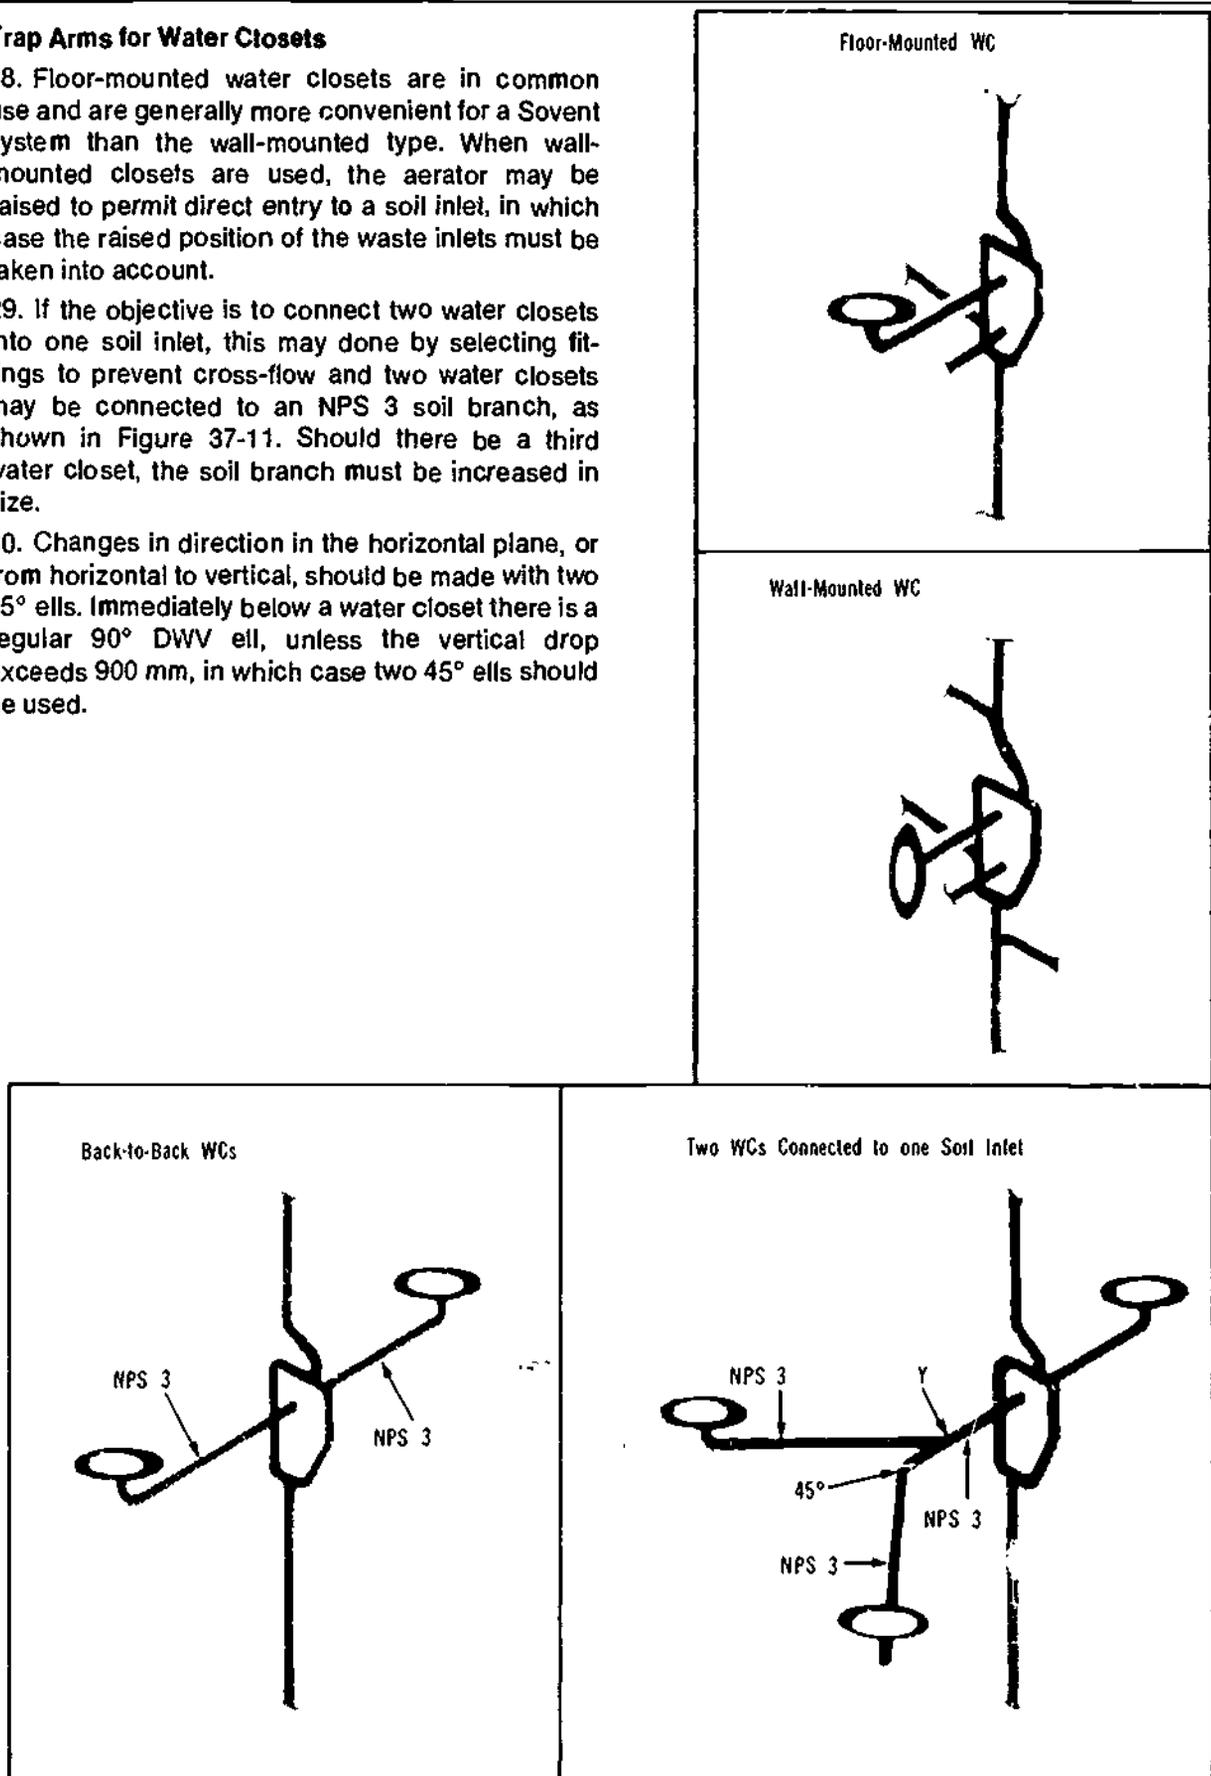

Figure 37-11. Soil Branches
29. If the objective is to connect two water closets into one soil inlet, this may be done by selecting fittings to prevent cross-flow and two water closets may be connected to an NPS 3 soil branch, as shown in Figure 37-11. Should there be a third water closet, the soil branch must be increased in size.